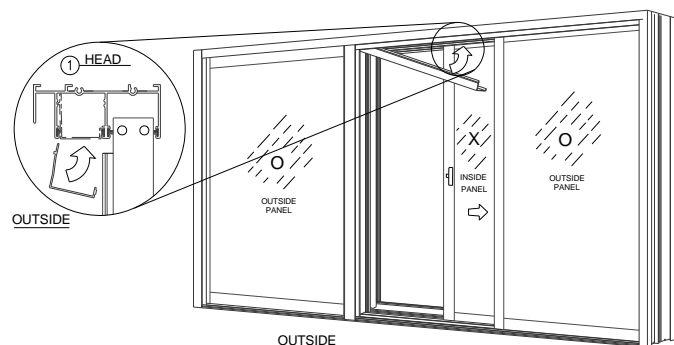

Figure 32:
6. Install the head closer between the false jamb and the right side fixed panel (Figure 32).